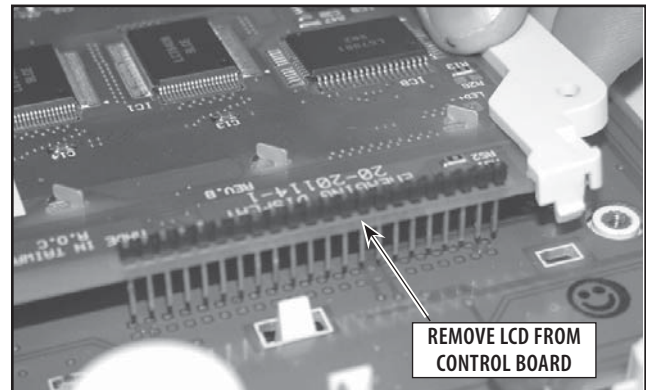

FIGURE 6.17
6. Carefully remove the LCD from the Control Board being careful not to damage the LCD header pins. **Refer to Figure 6.17 .**
Make certain to align the LCD header pins with the top row on the Control Board LCD connector. **Refer to Figure 6.17.**